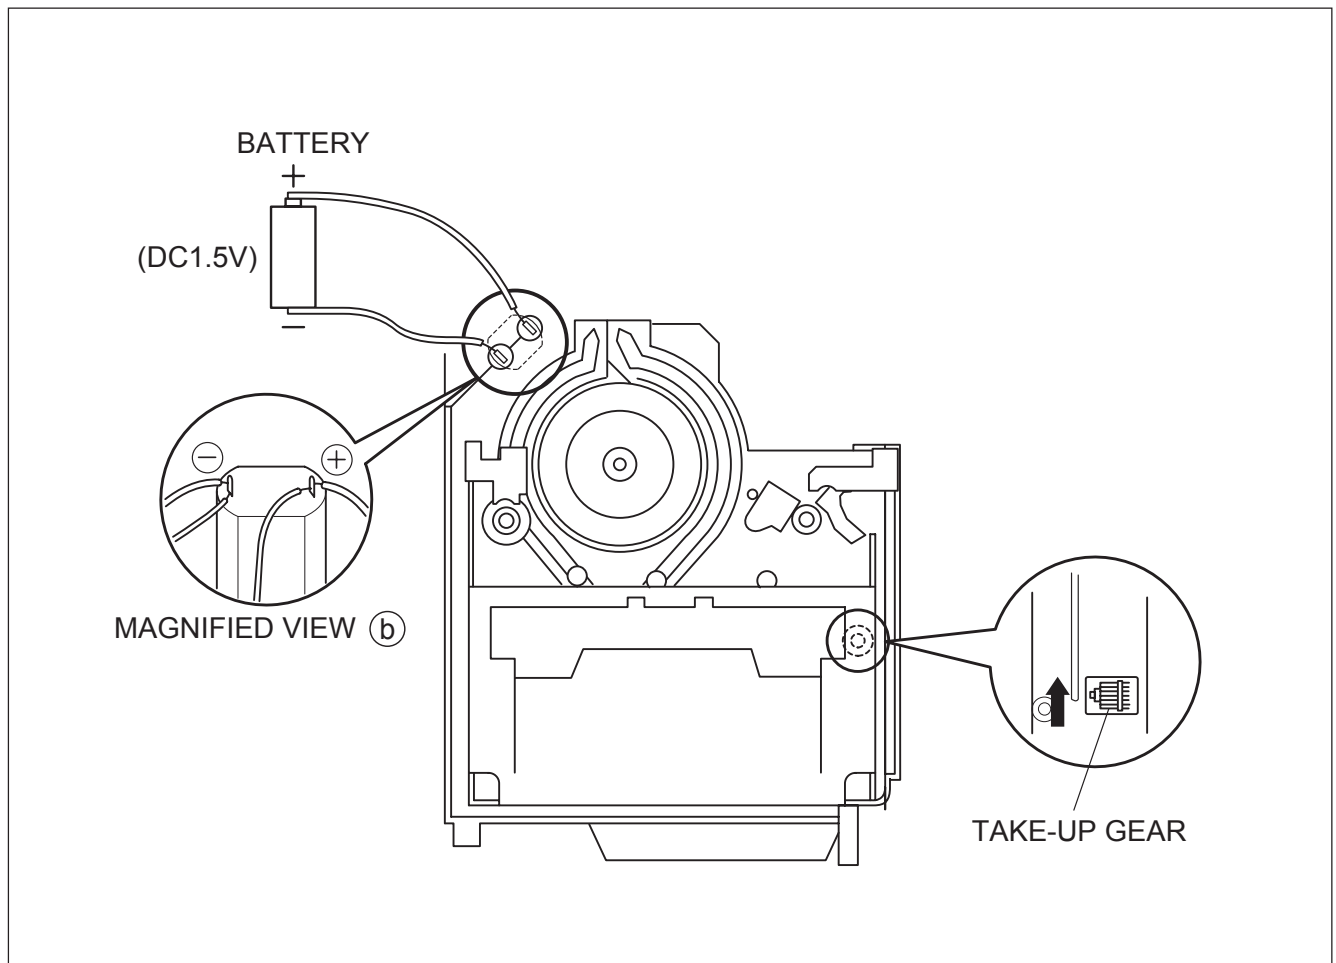

Fig.2-8-1
- (3) Connect a jumper wire to each pole of the LOADING MOTOR as shown by the magnified view (Fig. 2-8-1).
- (4) While holding down the cassette housing by hand, connect the jumper wires to a battery to run the mechanism to the EJECT position for unloading. If this unloading operation is performed as the cassette housing is not held down by hand, the front lid of the cassette may damage the tape when it is ejected.
- (5) For taking in the slack of the tape, run the mechanism to the EJECT position as the front lid of the cassette is left open, and turn the TAKE-UP GEAR in the forward direction to wind up the tape. After confirming that the tape has completely been wound up and the supply reel is idling, take the cassette tape out of the cassette housing.